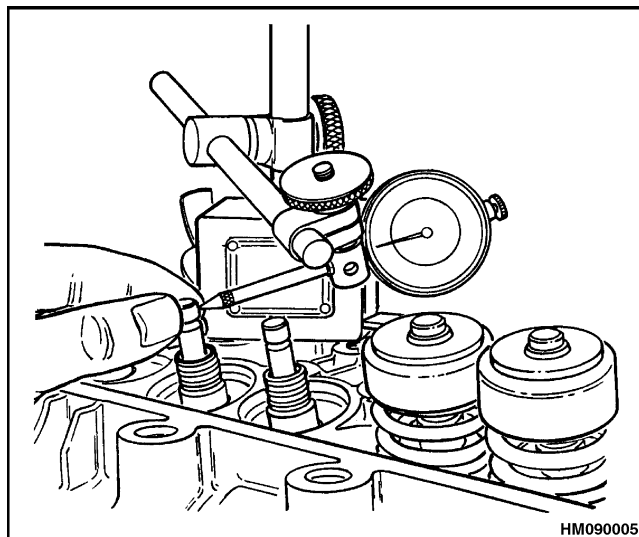

Figure 11. Valve Stem Clearance Check
- a. Install the valve into the valve guide. Install the dial indicator onto the cylinder head as shown in Figure 11.